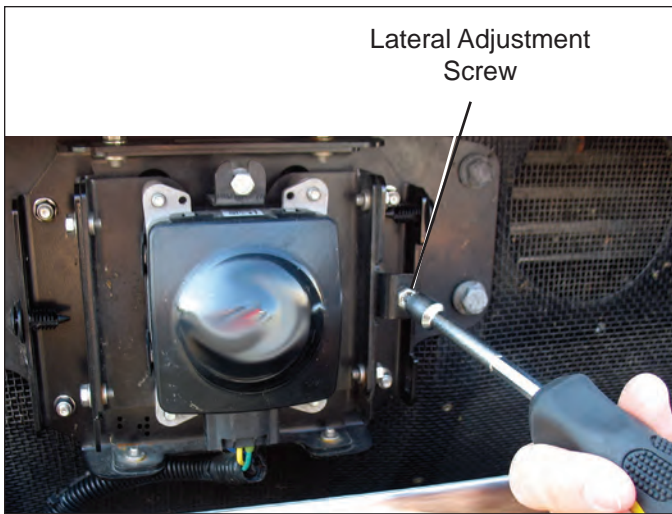

FIGURE 37 - LATERAL ADJUSTMENT
2. See Figure 37. Adjust the lateral adjustment screw until the desired alignment is reached. DO NOT remove the screws. Use steps 4 through 7 in Section 6.09: *Check Lateral Alignment* section to measure.